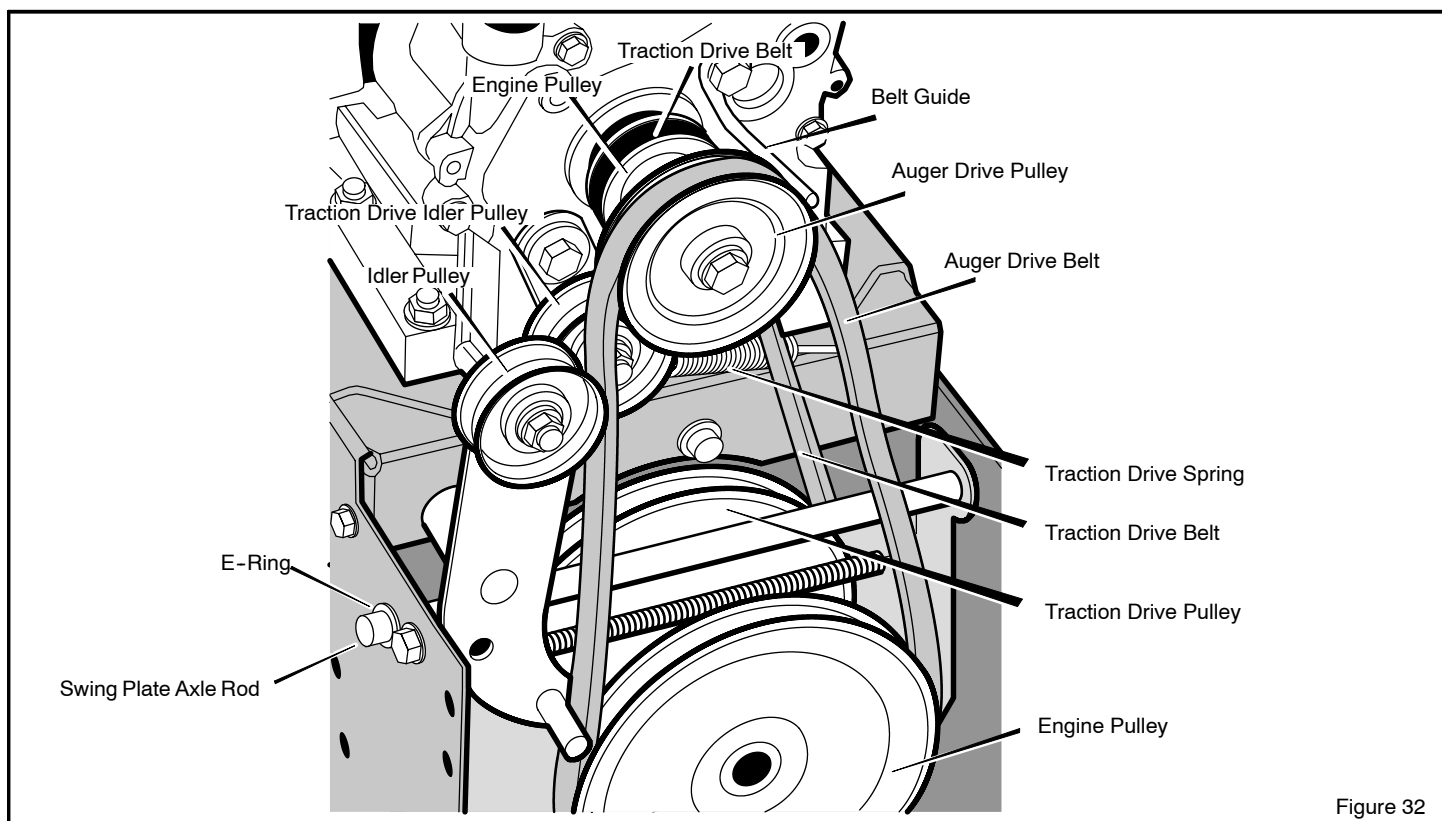

Figure 32
3. Loosen nut on auger idler pulley and move auger idler pulley towards belt about 1/8 inch (3 mm) (see Figure 32).
5. Loosen the **belt guide**. Pull the **belt guide** away from the **auger drive pulley** (see Figure 32).
9. Remove the old **auger drive belt** from the **auger drive pulley**. Replace the **auger drive belt** with an original factory replacement belt available from an authorized service center (see Figure 32).
3. Remove the **e-ring** from one end of the **swing plate axle rod**. Remove the **swing plate axle rod** to allow the swing plate to pivot forward (see Figure 32).